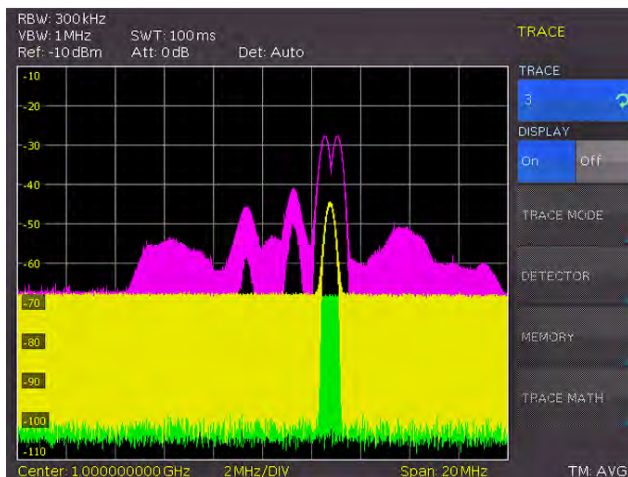

Fig. 6.5: Simultaneous display of 3 traces
Trace 2 and 3 are each based on the freely configurable trace 1. Trace 2 and 3 can only be turned on (ON) or off (OFF). If all traces are enabled, it is possible to analyze the signal „progression“ by the resulting min-max graph (please refer to figure 6.5).